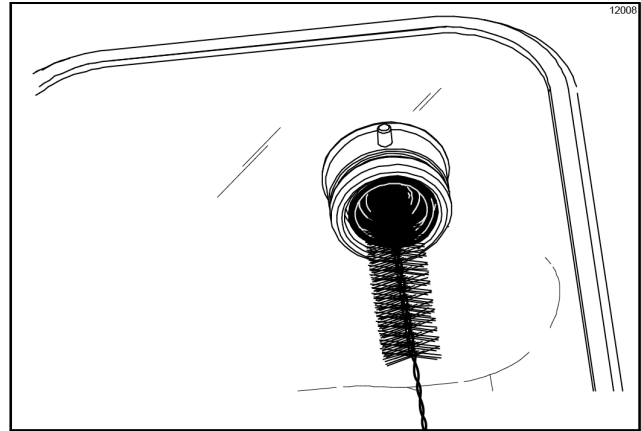

Figure 6-66
5. Using the black brush, clean the drive hub opening in the rear wall of the mix hopper. (See Figure 6-66.)